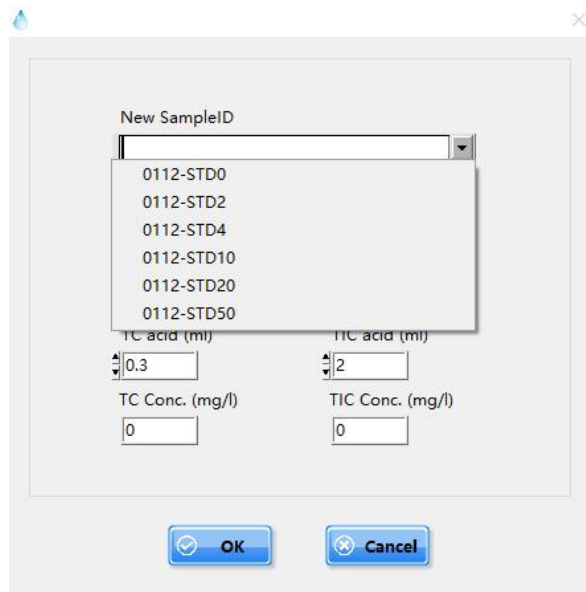

Fig 4.25
Step 3 Click the drop-down menu to select the registered standard sample. (Fig. 4.25). 'Sample size', 'Minimum of times', 'Maximum of times', 'TC acid' and 'TIC acid' can be set and adjusted based on actual test requirements. For more details on setting, please refer to Chapter 5 Software Introductions.